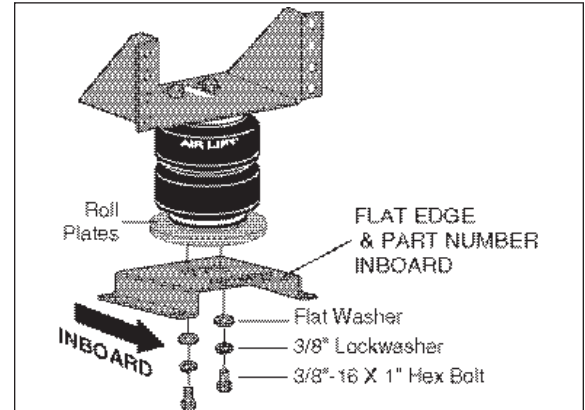

Figure 5
2. Attach the lower bracket to the air springs with the two 3/8"-16x7/8" bolts, lock washers, and flat washers (Figure 5).